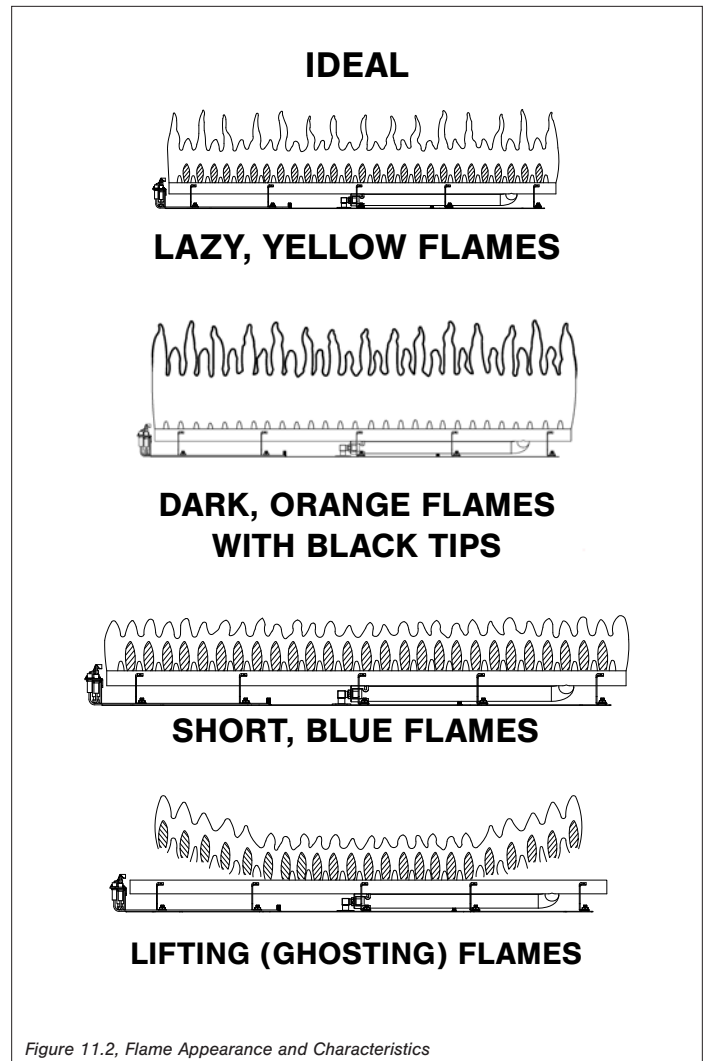

Figure 11.2, Flame Appearance and Characteristics
- Visually check pilot light and burner flame pattern when in operation. Flames should be steady, not lifting or floating. Refer to Figure 11.2, Flame Appearance and Characteristics on page 33 for more information.